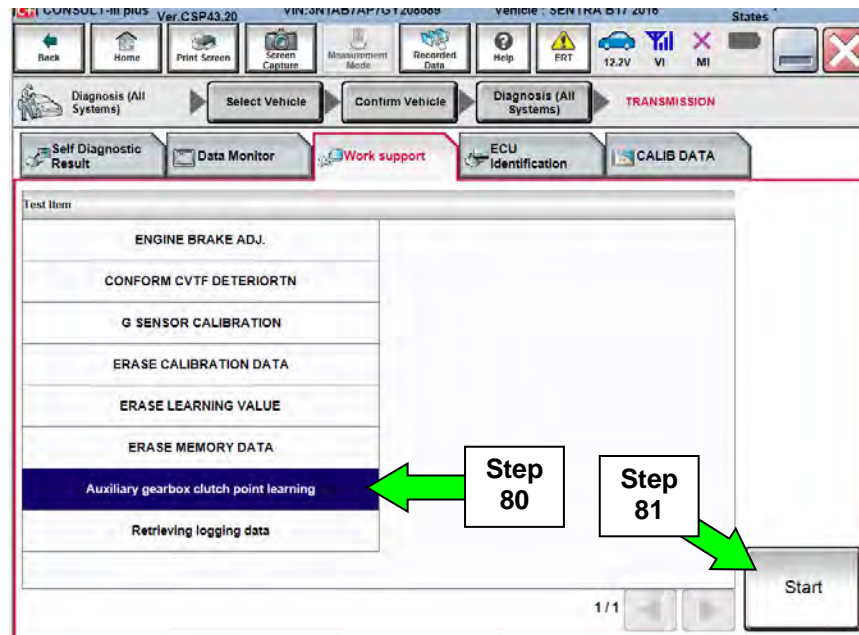

Figure 42
79. Navigate C-III plus to the screen shown in Figure 42.